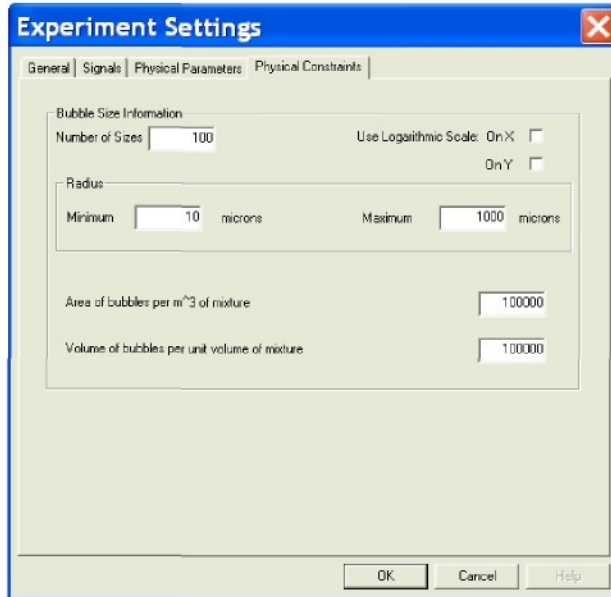

Figure 8. Experimental Settings: Physical Constraints Page.
- ❑ **Physical Constraints:** On this page (Figure 8), physical constraints are imposed in order to enable solution of the ill-posed problem, and the parameters of the computed distribution are specified. These include the minimum and maximum of the computed bubble sizes (radii) and the number of discrete sizes to compute. Two options are available for calculation (and subsequent display) of the bubble sizes. The sizes can either be linearly or logarithmically distributed between the minimum and maximum sizes. In addition, the vertical scale (y) – bubble number per unit volume – can be displayed with either a linear or logarithmic scale. The logarithmic scale is selected if the appropriate box on this page is checked. Upper bounds on both the total bubble surface area and the total bubble volume per unit volume (m^3) of the measurement region are also specified here. These are utilized as constraints in solving the inverse problem and need only be very approximate. They are usually set to large positive values.